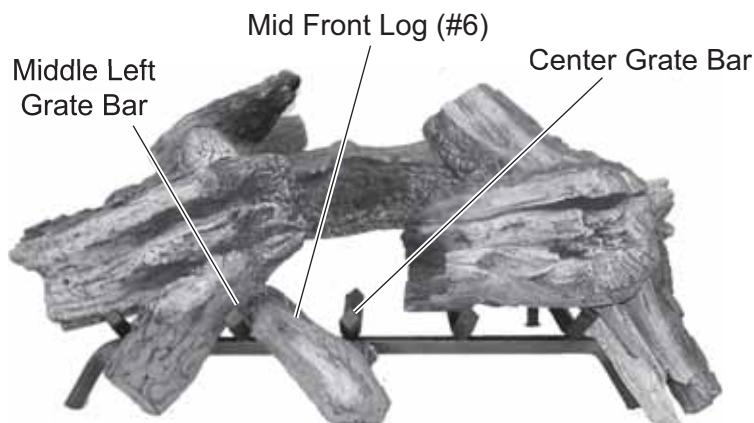

Figure 136 - Placing Mid Front Log (#6) on Grate Between Center and Middle Left Grade Bars.
7. Place Mid Front Log #6 on grate between center and middle left grate bars. Fit notch on back of log on the cross grate bar. *See Figure 136.*